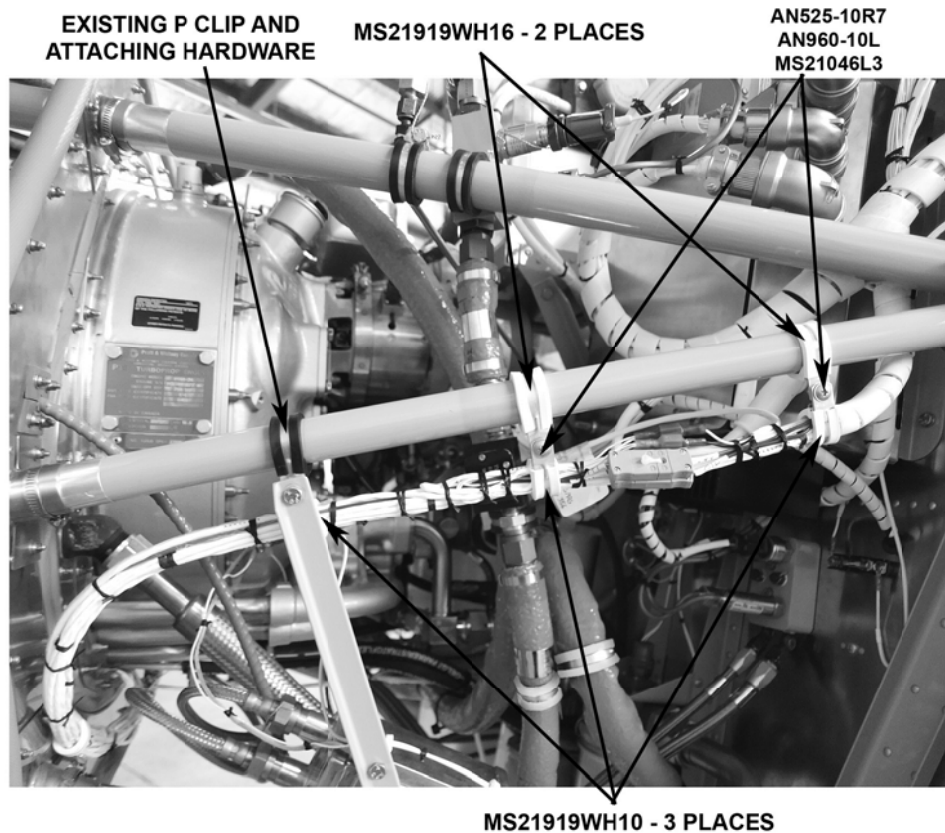

FIGURE 5 P CLIPPING OF ELECTRICAL LOOM
- 8) Remove Tyrapas attaching Electrical Loom to Engine Mount Truss (if fitted) and install P Clips (See Figure 5). Reroute Fuel Transducer and Pressure Switch Wiring to existing Main Looms and tie/secure as required I.A.W. AC43.13-1B Para 11-96.